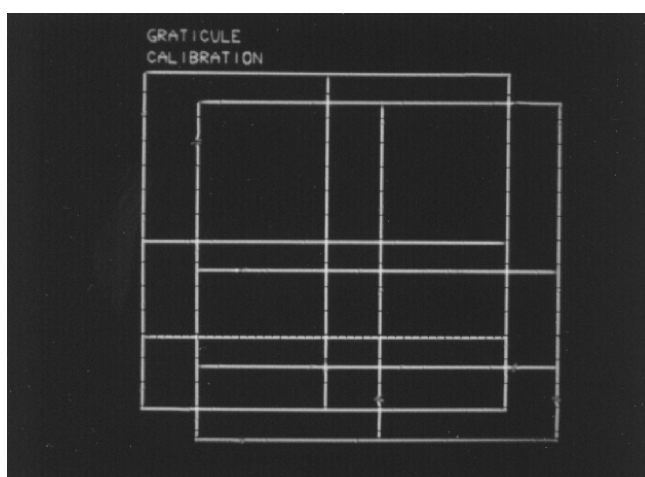

Fig. 6-13 Test grid, X/Y-magnification check
b. X/Y-magnification check (see figure 6-13).